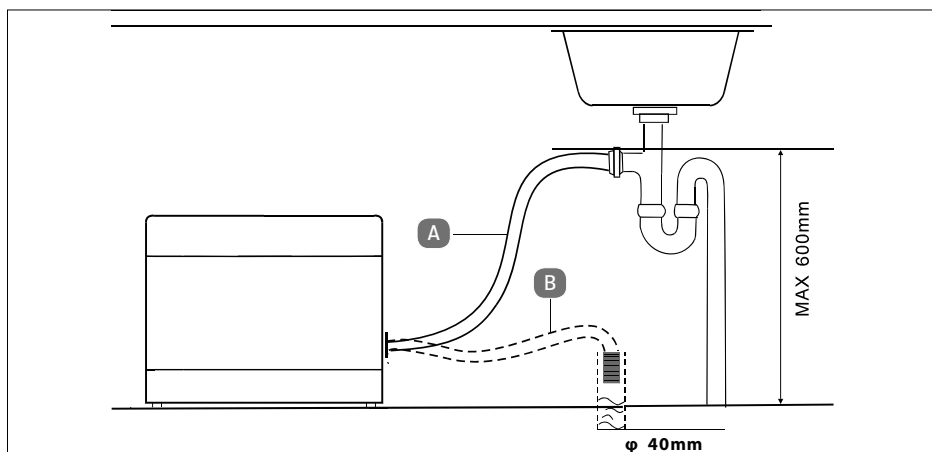

Fig. 6
- ▶ Connect the outlet hose with the drain pipe siphon (for washing machines) underneath the sink. Ensure that the waste water hose is inclined sufficiently. The appliance should be positioned at least 4 cm above the drain (see **Fig. 6, A**).
- ▶ You can also feed the outlet hose into a drain pipe. Hook the hose into the drain pipe in such a way that it cannot come loose and the water drains directly downwards unhindered (see **Fig. 6, B**).